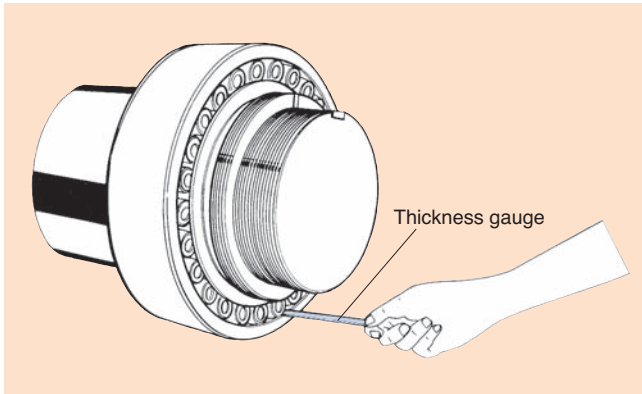

Fig. 29
- (1) With the bearing moving free before installation (before fastening), measure the radial internal clearance with a thickness gauge (see Fig. 29). Measure the bearing clearance at three or more points around the bearing, and take the average value.